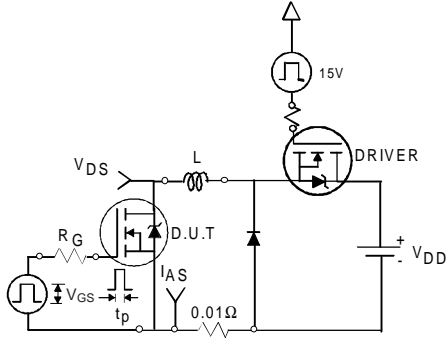

Fig 12a. Unclamped Inductive Test Circuit
- ③ $I_{SD} \leq 104A, di/dt \leq 240A/\mu s, V_{DD} \leq V_{(BR)DSS}, T_J \leq 175^\circ\text{C}$
- ④ Pulse width $\leq 400\mu s$; duty cycle $\leq 2\%$.
- ⑤ $C_{oss\ eff.}$ is a fixed capacitance that gives the same charging time as C_{oss} while V_{DS} is rising from 0 to $80\% V_{DSS}$.
- ⑥ Calculated continuous current based on maximum allowable junction temperature. Package limitation current is 75A.
- ⑦ Limited by T_{Jmax} , see Fig.12a, 12b, 15, 16 for typical repetitive avalanche performance.
- ⑧ This value determined from sample failure population. 100% tested to this value in production.
3. Equation below based on circuit and waveforms shown in Figures 12a, 12b.